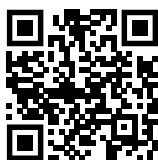

Fig. 151
- ▶ Open Liebherr SmartMonitoring Dashboard. (see Fig. 151)